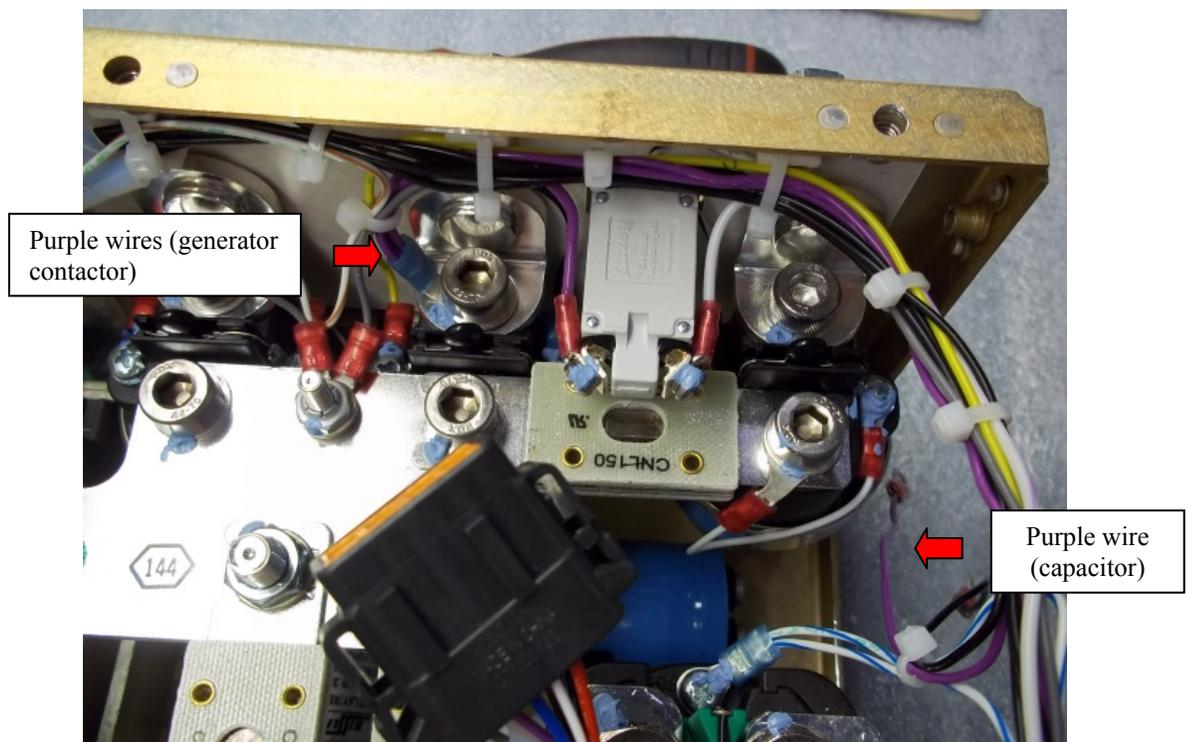

Figure 5-6: Locate Generator Contactor Connection
8. Follow the purple wire from the capacitor to locate the connection at the generator contactor (**Figure 5-6**).